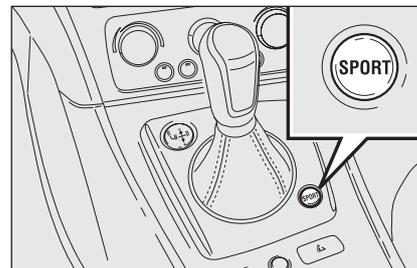

fig. 6
SPORT/NORMAL (S) operating mode can be engaged regardless of the gear lever position: to engage it, press button **SPORT** (**fig. 6**) located on the gearbox plate.
To engage the **Sport/Normal (S)** operating mode, press button **SPORT** (fig. 6) regardless of the operating mode selected.